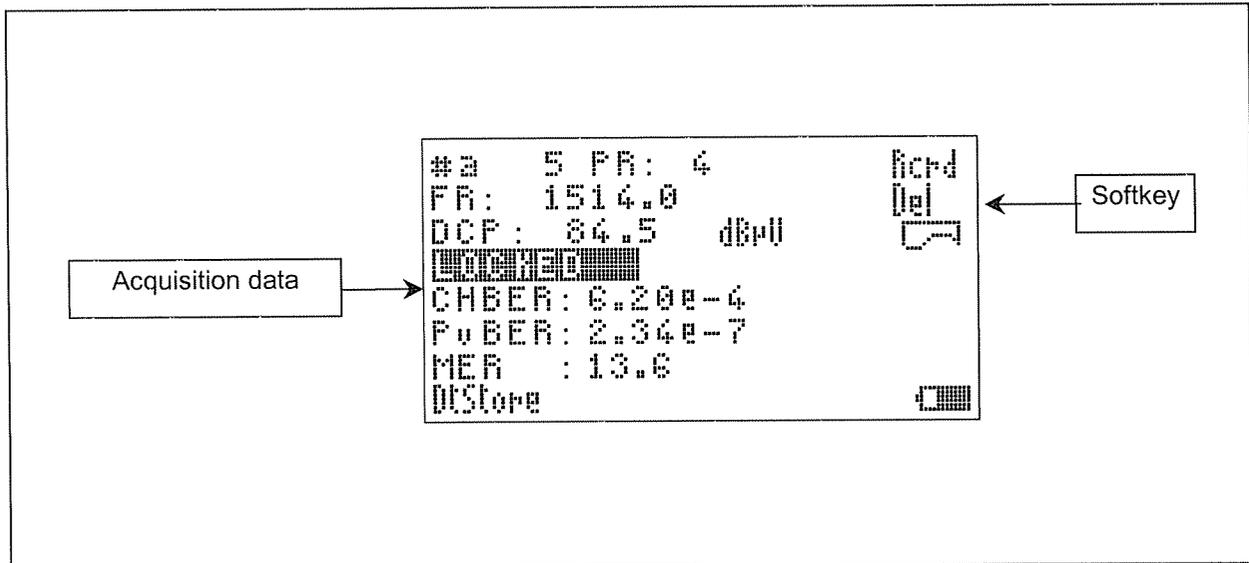

Figure 12 Typical program acquisition display. The 5th acquisition of the five carried out is shown
- ◆ **ACQUIRE #a 2 . 1%**. Initiates a program acquisition or capture. The same line indicates the number of the next program acquisition and the available storing capacity left in percentage. A real time acquisition (*instant capture*) can also be made at any time of the measurement being taken by simply keeping on pressing key **MEA (23)**, regardless of the measuring mode the instrument is set to.
- ◆ **SHOW DATA LOGGED>**. Shows the result of the program acquisitions. The page is shown first of the first program of the last acquisition which was carried out (see Figure 12). On top of the display list the acquisition and program numbers are shown. If the acquisition was carried out as an *instant capture* (see **ACQUIRE #a 2 . 1%** paragraph above for details), using key **MEA (23)**, then CV for “Current Value” is shown instead of the program. Other data follow on the display such as frequency and, depending on the type of signal being treated, DCP for digital and LEV for analogue signal, the locking status, the channel BER, post Viterbi BER and MER.